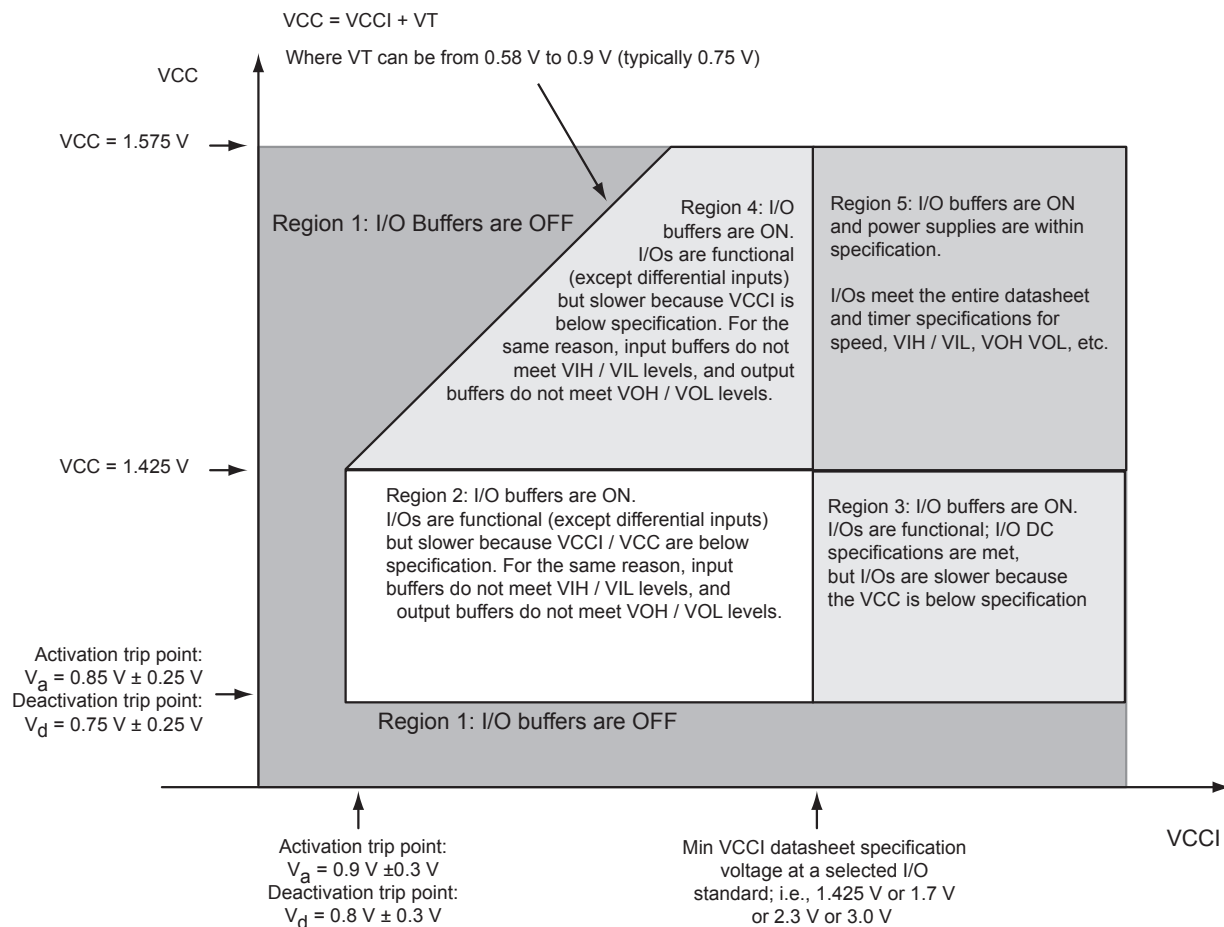

Figure 3-1 • I/O State as a Function of VCCI and VCC Voltage Levels
Sophisticated power-up management circuitry is designed into every Fusion device. These circuits ensure easy transition from the powered off state to the powered up state of the device. The many different supplies can power up in any sequence with minimized current spikes or surges. In addition, the I/O will be in a known state through the power-up sequence. The basic principle is shown in Figure 3-1 on page 3-6.
1. VCC and VCCI are above the minimum specified trip points (Figure 3-1).
Microsemi recommends using monotonic power supplies or voltage regulators to ensure proper power-up behavior. Power ramp-up should be monotonic at least until VCC and VCCPLX exceed brownout activation levels. The VCC activation level is specified as 1.1 V worst-case (see Figure 3-1 on page 3-6 for more details).